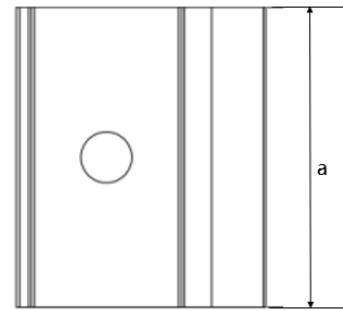
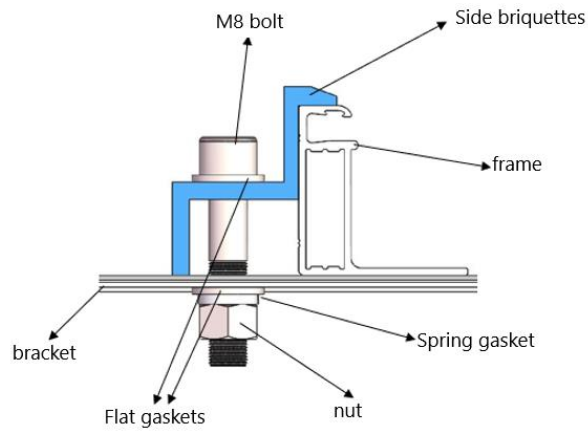

Figure 12 Top view of fringe clamp
Figure 14 Installation schematic diagram of fringe clamp
- ⑤ Ensure that the mounting sequence of each clamp is in the order of flat washer, spring washer and nut.
- ⑥ Figures 12 and 13 show the schematic diagram of the clamp, while Figures 14 and 15 show the installation schematic diagram of the clamp. The dimensions of the clamp are $a \geq 60$ mm, $b \geq 16$ mm, $c \geq 5$ mm, $d \geq 8$ mm, $e \geq 15$ mm, $\varnothing = 9$ mm, and the thickness of the clamp is ≥ 3 mm. The tightening torque is suggested to be 17~23Nm for Class 8.8 screw and bolts.